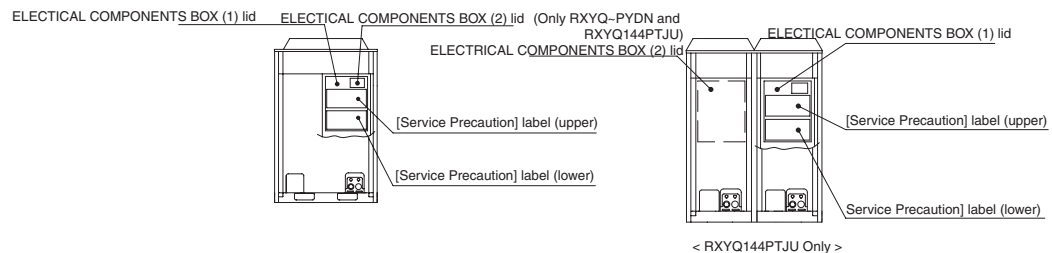

fig. 32
3. Perform the check operation following the Check Operation Method of the [Service Precautions] label (lower) on the Electrical Components Box lid. See figure 32. The system operation for about 40~60 minutes and automatically stops the check operation.